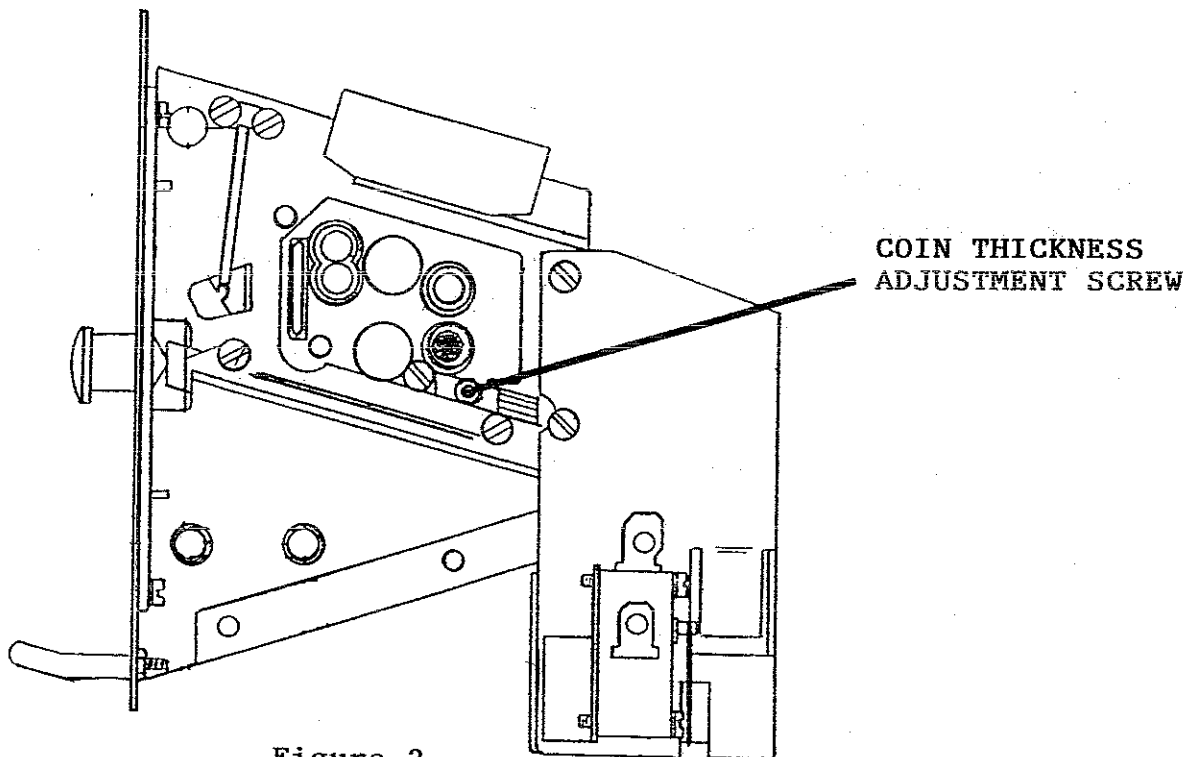

Figure 2.
1. In figure 2, locate the thickness adjustment screw and lock nut.